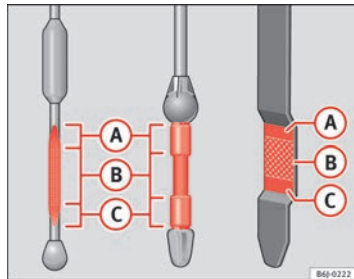

Fig. 144 Engine oil dipstick
- Then pull it out once more and check the oil level ⇒ page 225, fig. 144. Top up with engine oil if necessary.